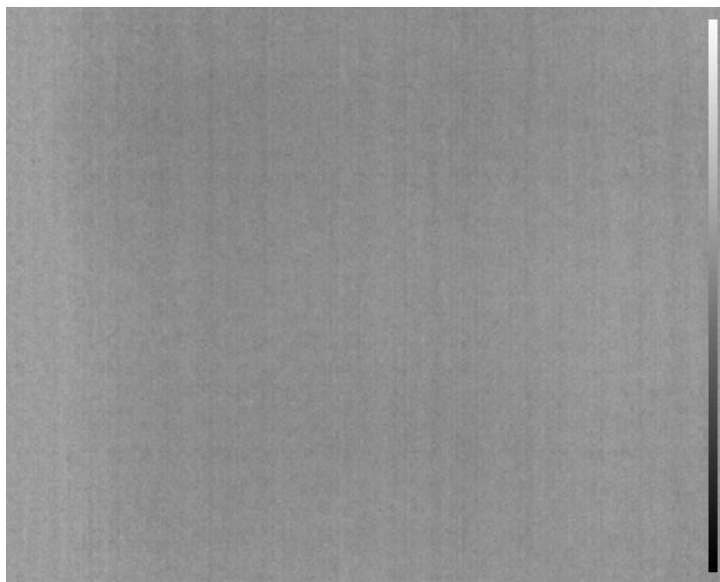

Figure 40: "Isotherm" Symbol
- Isotherm Bar: By factory default, the symbol shown in Figure 40 is displayed whenever the camera has isotherms enabled. It displays the current color LUT (See Section 6.3 for full description of this feature.)